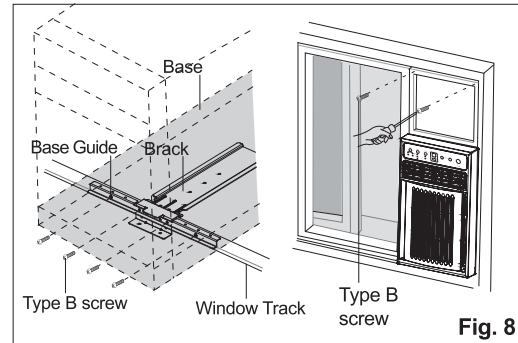

Fig. 8
11. Drill 1/8 inch holes in window track through the existing holes on Base Guide. Screw 4 Type B screws through the holes. (Fig. 8)
13. Drill 1/8" inch hole in window jamb to align with the existing holes in the Curtain Frame. Attach Curtain Frame to window frame with 2 Type B screws. (Fig. 8)